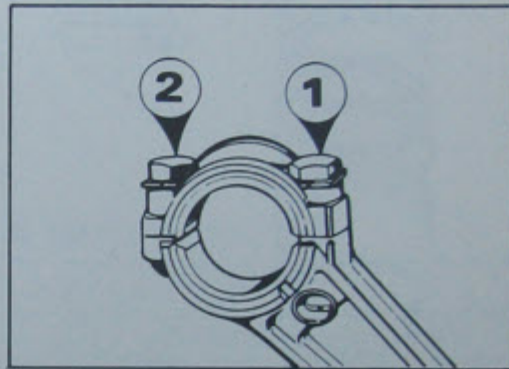

Fig. 54 Screw tightening sequence
- Screws should then be tightened by means of torque wrench to figures in table following the sequence shown in Fig. 54.